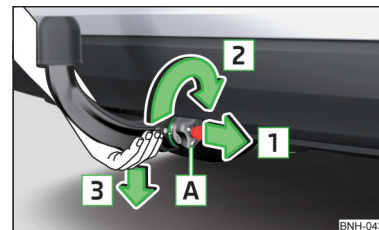

Fig. 112
- > Grasp the ball bar from **below** » Fig. 112.